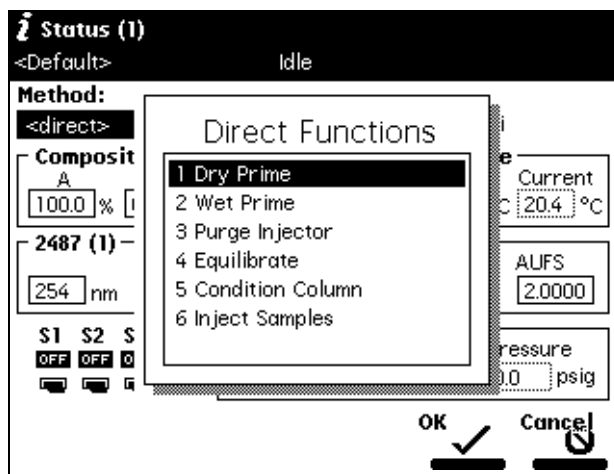

Figure 4-7 Direct Functions Menu
2. Press the **Direct Function** screen key. A list of direct functions appears, as shown in Figure 4-7. Table 4-2 describes each of the direct functions.
5. Press the **Direct Function** screen key on the Status screen. The Direct Functions menu appears, as shown in Figure 4-7.
2. Press the **Direct Function** screen key in the Status screen. The Direct Functions menu appears, as shown in Figure 4-7.
3. Press the **Direct Function** screen key. The Direct Functions menu appears (see Figure 4-7).
1. Press the **Direct Function** screen key in the Status screen. The Direct Functions menu appears (Figure 4-7).
2. Press the **Direct Function** screen key. The Direct Functions menu appears (Figure 4-7).